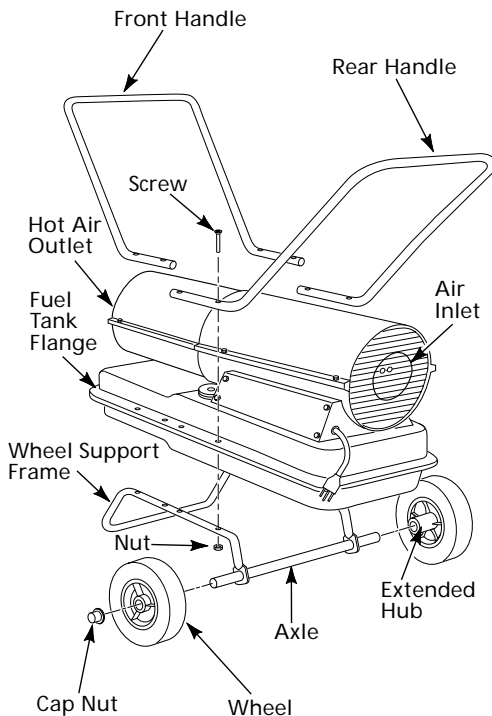

Figure 6 - Wheel and Handle Assembly, Models 3E218E and 3E219D Only
**IMPORTANT:** When installing wheels, point extended hub of wheels toward wheel support frame (See Figure 6).